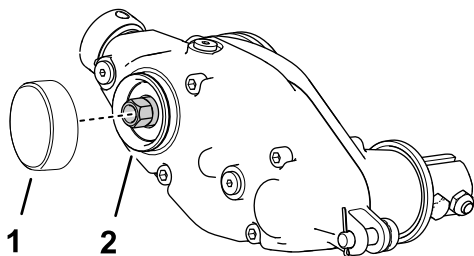

Figure 15
1. Apply medium-strength cylindrical bonding retaining compound (such as Green Loctite 609®) around the snap ring groove and the outer diameter surface (Figure 15).
2. Install the cap as shown in Figure 15.